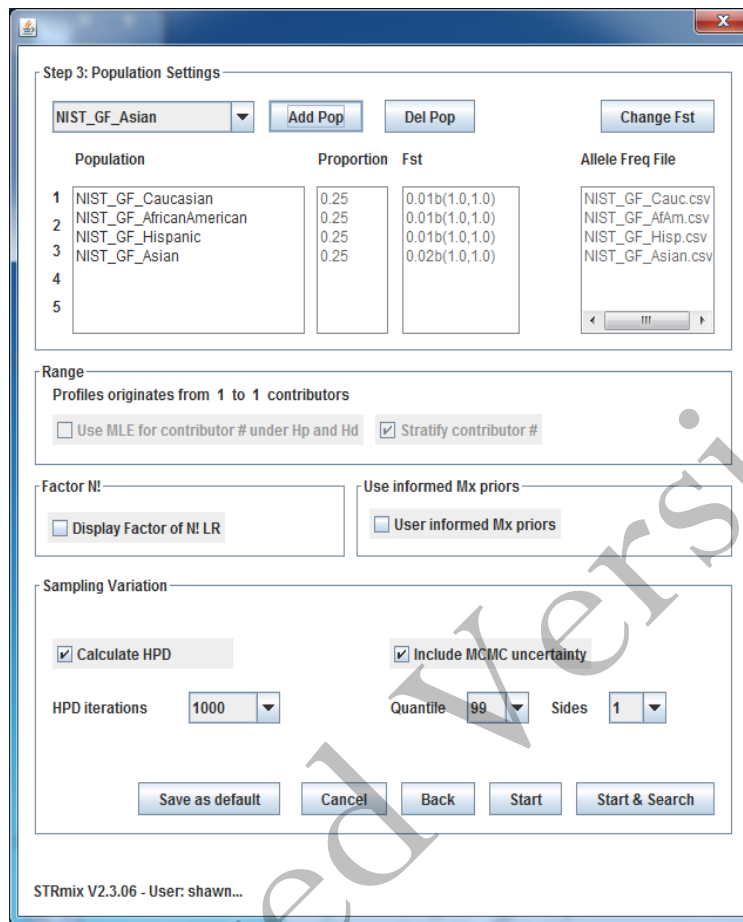

FIGURE 4
Select Confirm Settings to proceed to the next step (refer to Figure 4).
5. Select the appropriate population/s from the drop down menu. If reference samples have been added as unknowns, population groups for any likelihood ratio calculations can be added at this step by choosing Add Pop for each highlighted population of interest from the drop-down menu. Population settings are only required when reference samples have been selected in Step 2. If no reference samples are selected the settings in Step 3 are disabled (as in Figure 4).
1. During either a single sample analysis or batch analyses, from the Populations Settings window (Figure 4), select Start and Search.
9. The window in Figure 4 will open. Select the appropriate population/s from the drop down menu and choosing Add Pop. Select Start to start the calculation.